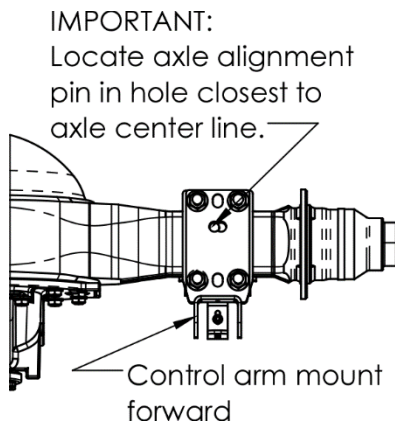
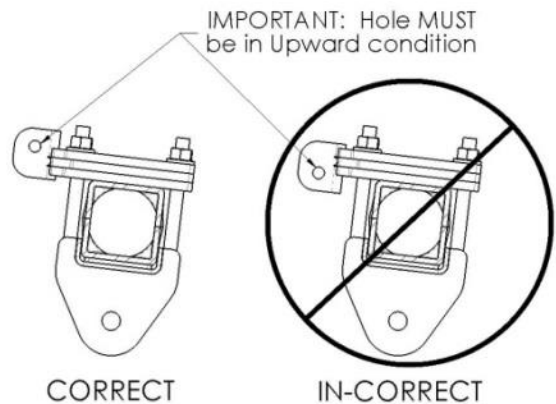

Figure 13, Aligning Axle Seat on Axle Stud
Figure 14, Axle Seat Orientation
1. Loosely Install the Axle Seat on to the Drivers Side axle spring seat. The Axle Seat should be flush to the top of the axle with the axle stud is in the slot closest to axle centerline. Reference Figure 13 and Figure 14 for correct orientation.